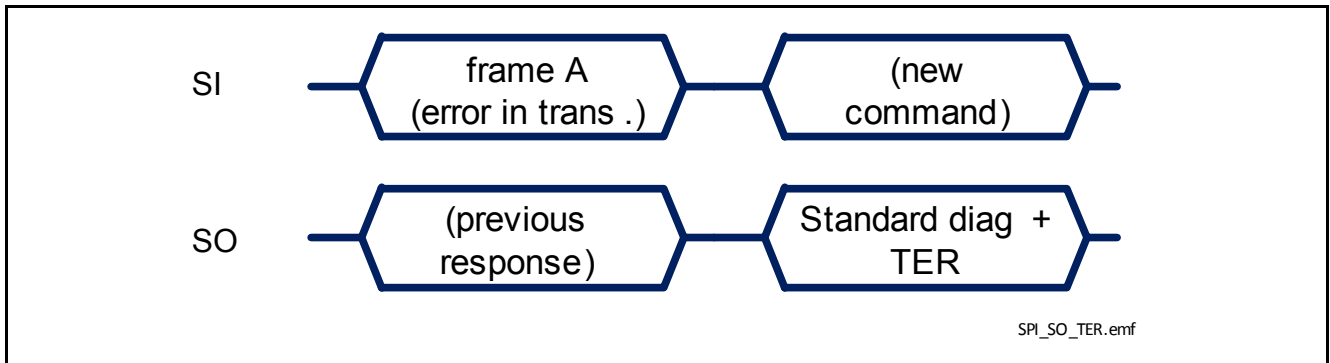

Figure 36 TLD5541-2QV response after an error in transmission
- in case an error in transmission happened during the previous frame (for instance, the clock pulses were not multiple of 8 with a minimum of 16 bits), shown in **Figure 36**